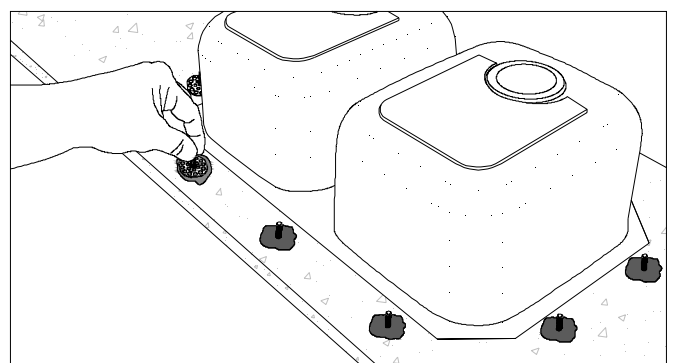

Figure 6D
- Place sink clip base plates into WA 8215. (FIG. 6D)